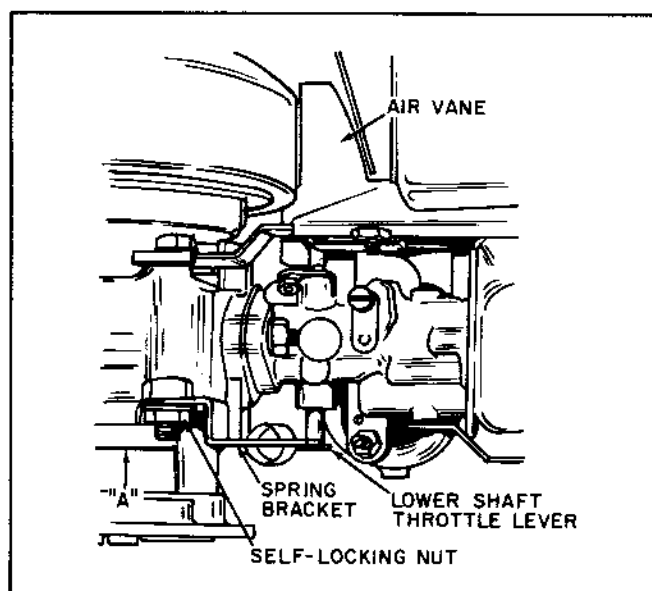

Figure 5-16. Air Vane Governor Adjustment
(2) 2-Cycle Air Vane Governors
- a. Loosen self-locking nut (Fig. 5-16) that holds governor spring bracket to engine crankcase.
- c. After adjustment, the spring bracket should not be closer than $1/16$ inch to crankcase at point A in Figure 5-16.